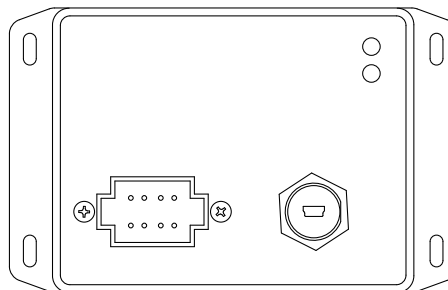

Figure HM-9. 6-Seat VDR Mounting Dimensions
1. Measure and mark mounting location for vehicle data recorder mounting screw holes. Make sure there is clearance for the VDR and cables before drilling holes. Refer to the Figure HM-9 for layout and dimensions.